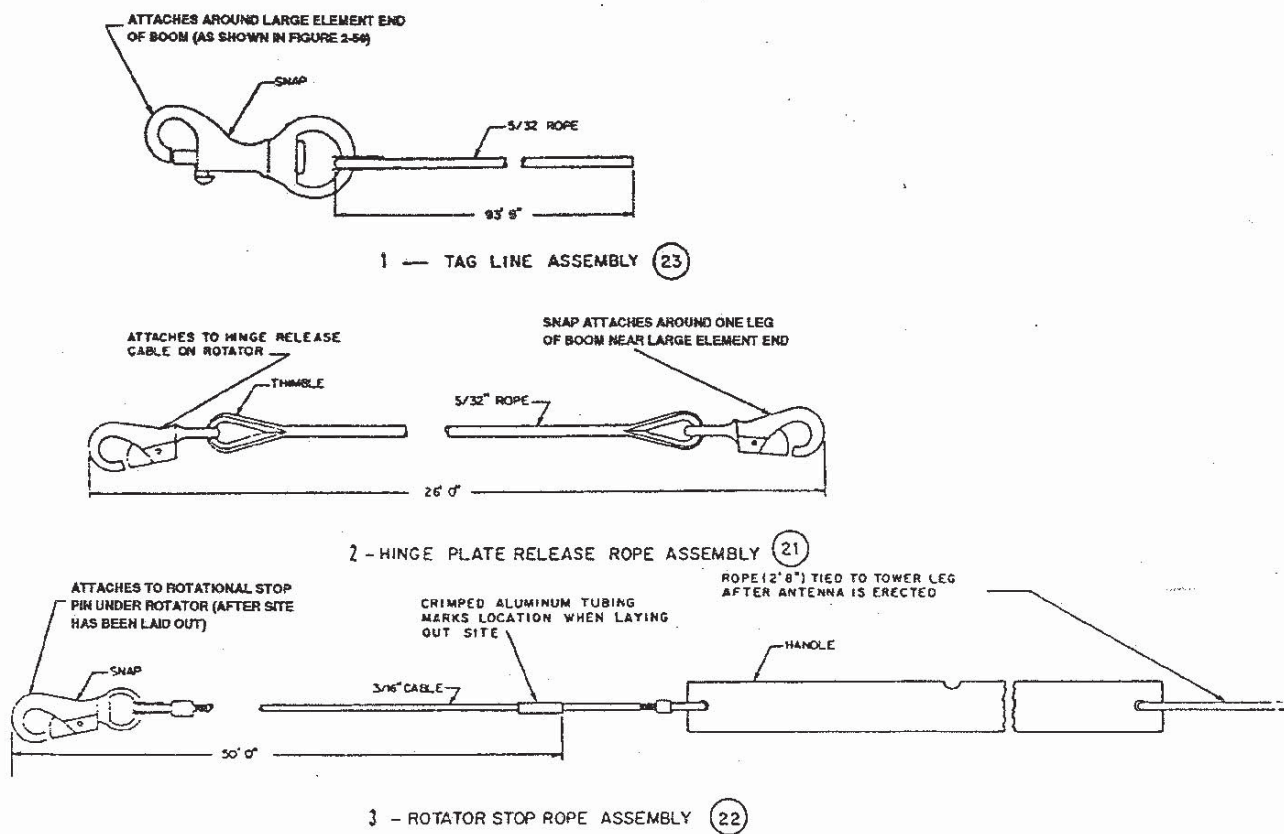
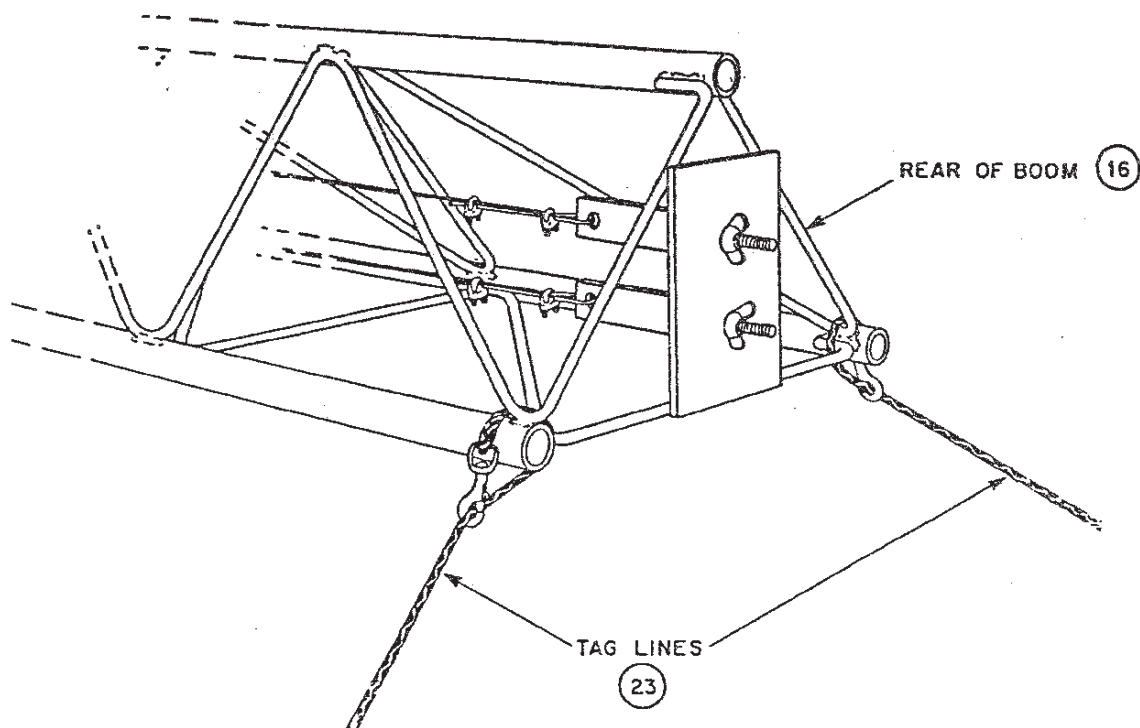

Figure 2-46
Figure 2-50
- v. One man now attaches the rotator stop rope (identified in Figure 2-46) to the rotator. He then threads the rope down the middle of the tower, as shown in Figure 2-47, and snaps it to the ring on the rotator (Figure 2-48). The black rope on the handle is tied to one of the tower legs about 5 feet (1.5 m) from the tower base.
- w. One man attaches the hinge plate release rope (identified in Figure 2-46) to the rotator as shown in Figure 2-49; being careful not to get it tangled with any elements or feedlines.
- x. One man shall tie the two tag lines (identified in Figure 2-46) on the rear of the boom as shown in Figure 2-50. These will then be laid out in a manner that will not interfere with the tower guys during erection procedures.